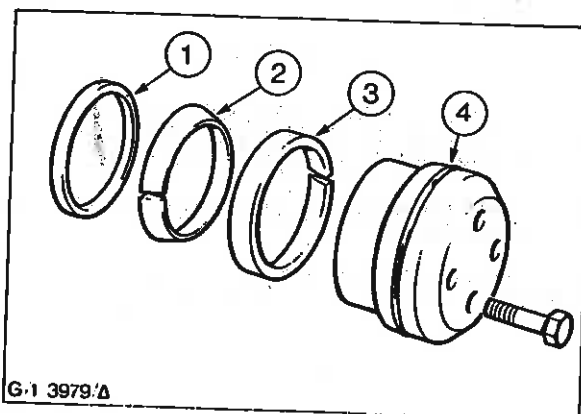

Fig. 73 - Crankshaft Pulley Retaining Components - 6 Cylinder Engines (Ringfeder Locking Mechanism)
90. Insert the spacer and the two locking rings in the order shown in Fig. 73, with the gaps opposite to one another. Fit the locking sleeve and the four bolts ensuring the locking rings are pushed fully and squarely into position.